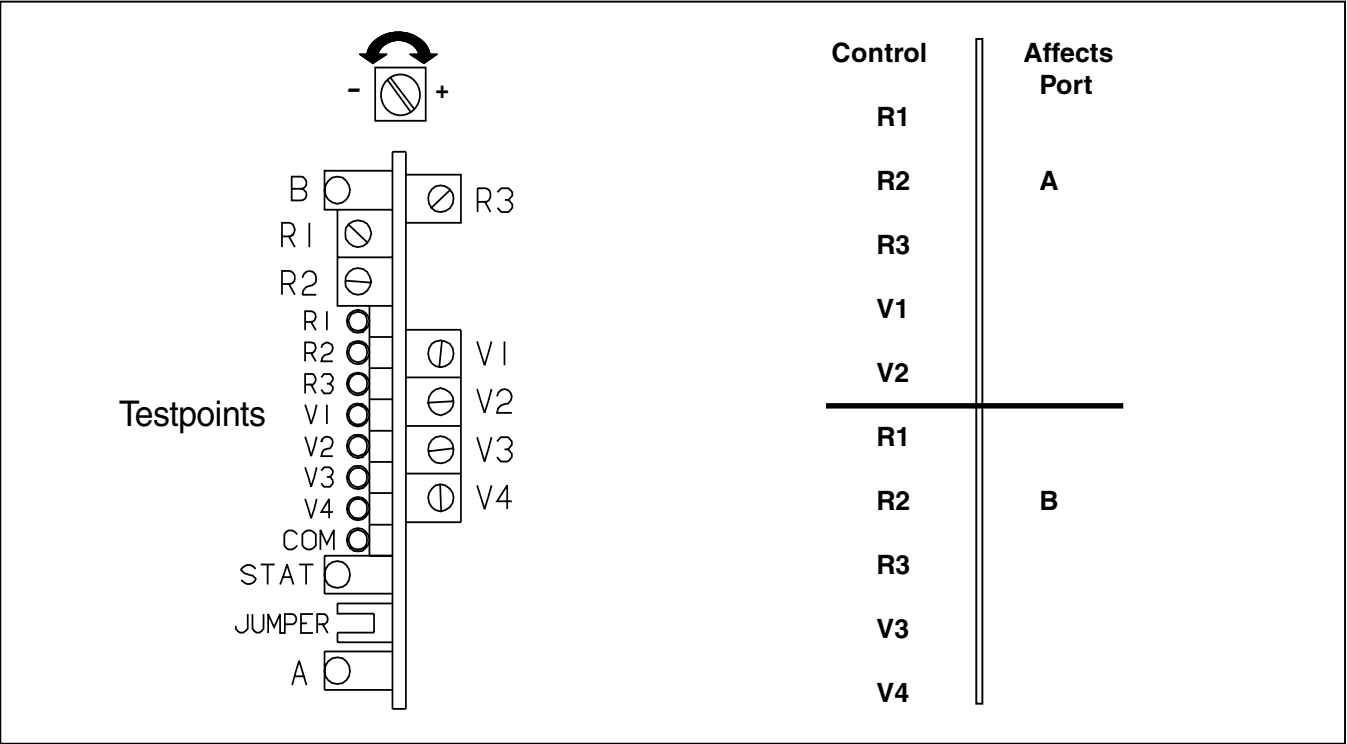
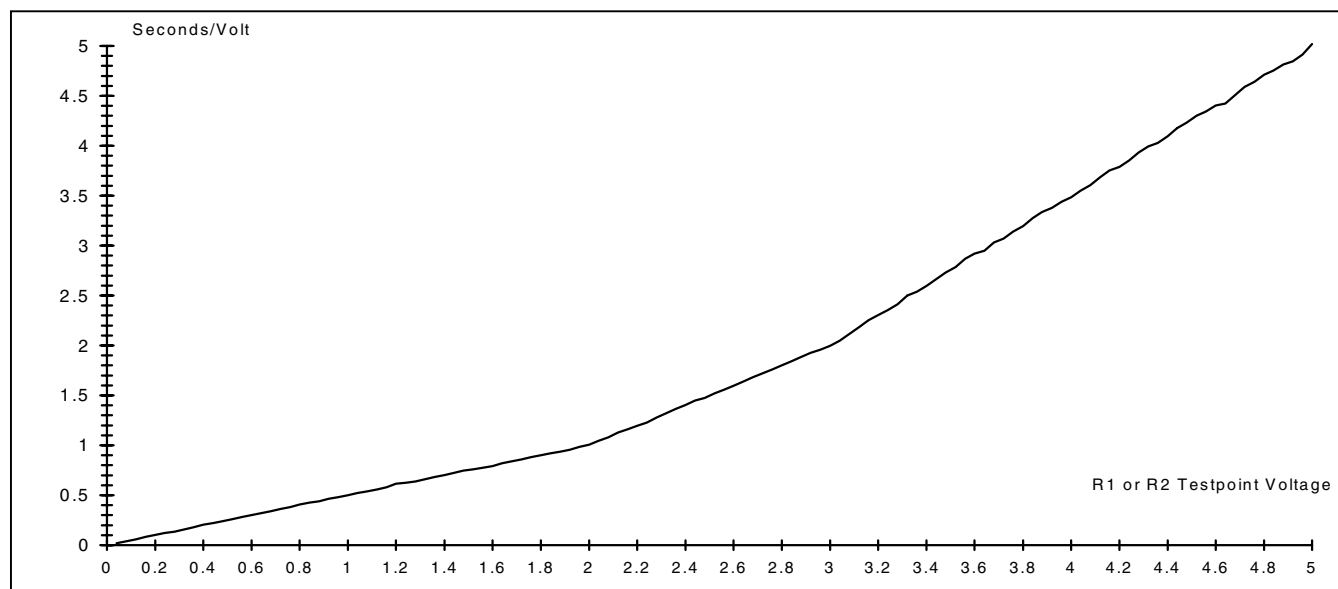

Figure 5 - Adjustment Diagram (Slow Shift Mode)
Figure 6 - Ramp Voltage to Ramp_{rate}
- 7) See Figure 5.
$$\text{R1}_{\text{rate}} = \text{Seconds / Volt reading taken from Figure 6}$$
voltage) of Figure 6. Then find the corresponding value from the Vertical axis (Seconds / Volt). This value then is R1_{rate} .
$$\text{R2}_{\text{rate}} = \text{Seconds / Volt reading taken from Figure 6}$$
To get this value, measure testpoint R2. Find this value on the horizontal axis (R1 or R2 testpoint voltage) of Figure 6. Then find the corresponding value from the Vertical axis (Seconds / Volt). This value then is R2_{rate} .
$$\text{Then } \text{R1}_{\text{rate}} \cong 0.9, \text{ from Figure 6}$$
- 3) See Figure 5 and Figure 6.